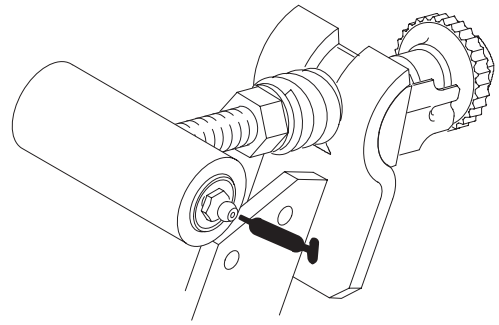
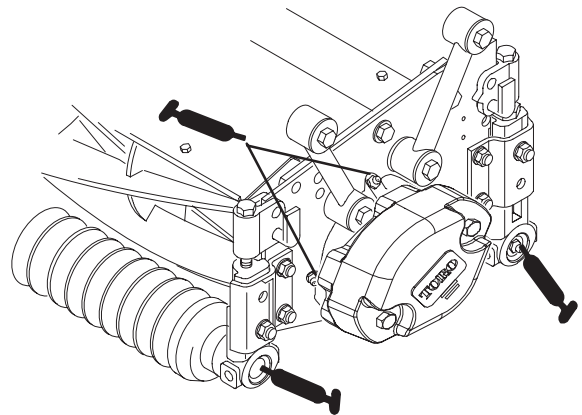

Figure 15
Figure 16
The grease fitting locations and quantities are: Bedknife adjuster (2), every 50 hours (Fig. 15); Reel bearings (2) and front and rear rollers (2 ea.) (Fig. 16).